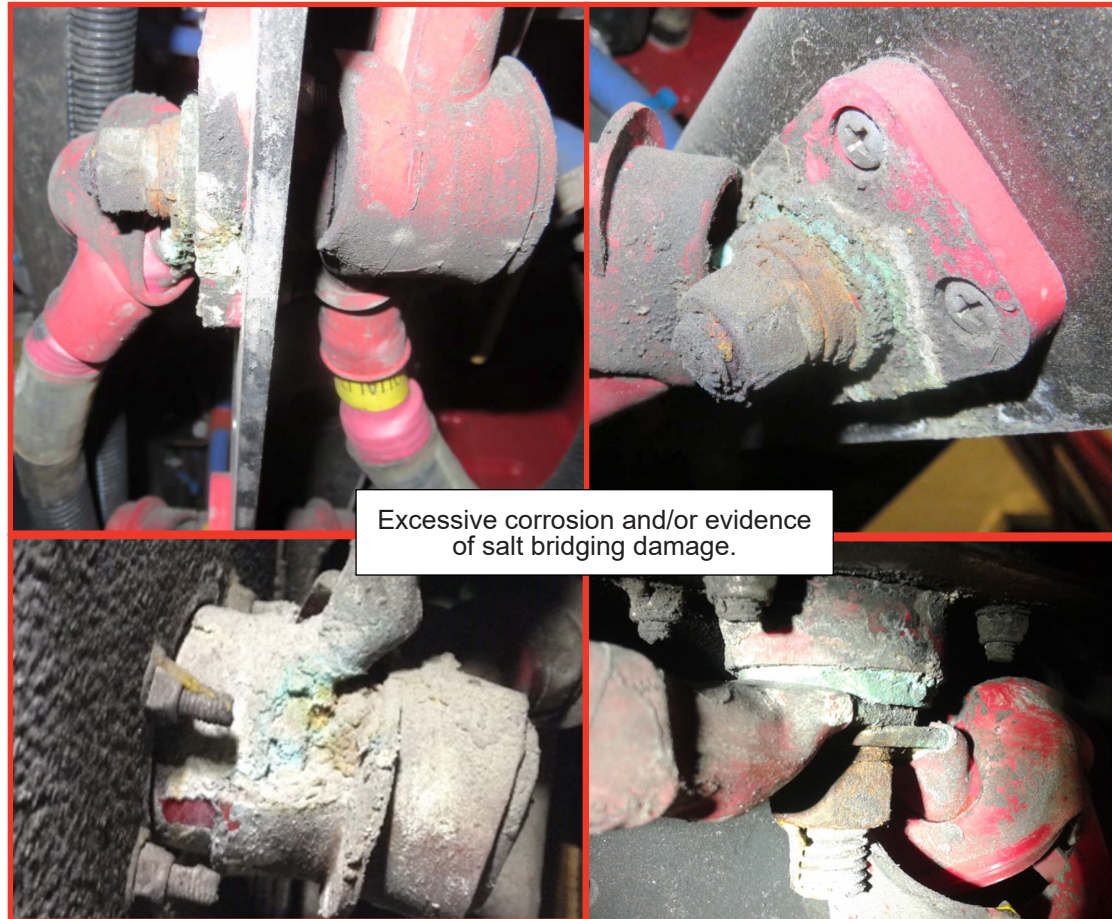

Figure 9 - Need of Maintenance for Junction Blocks with **DOLPH ER-41/EB-41/NOCO NCP-2/ Maxicoat** Corrosion Preventative Product
2. If the junction block is found with excessive corrosion and/or evidence of salt bridging damage, remove and discard the old junction block and the corresponding hardware and replace with a new junction block assembly (see Figure 9).